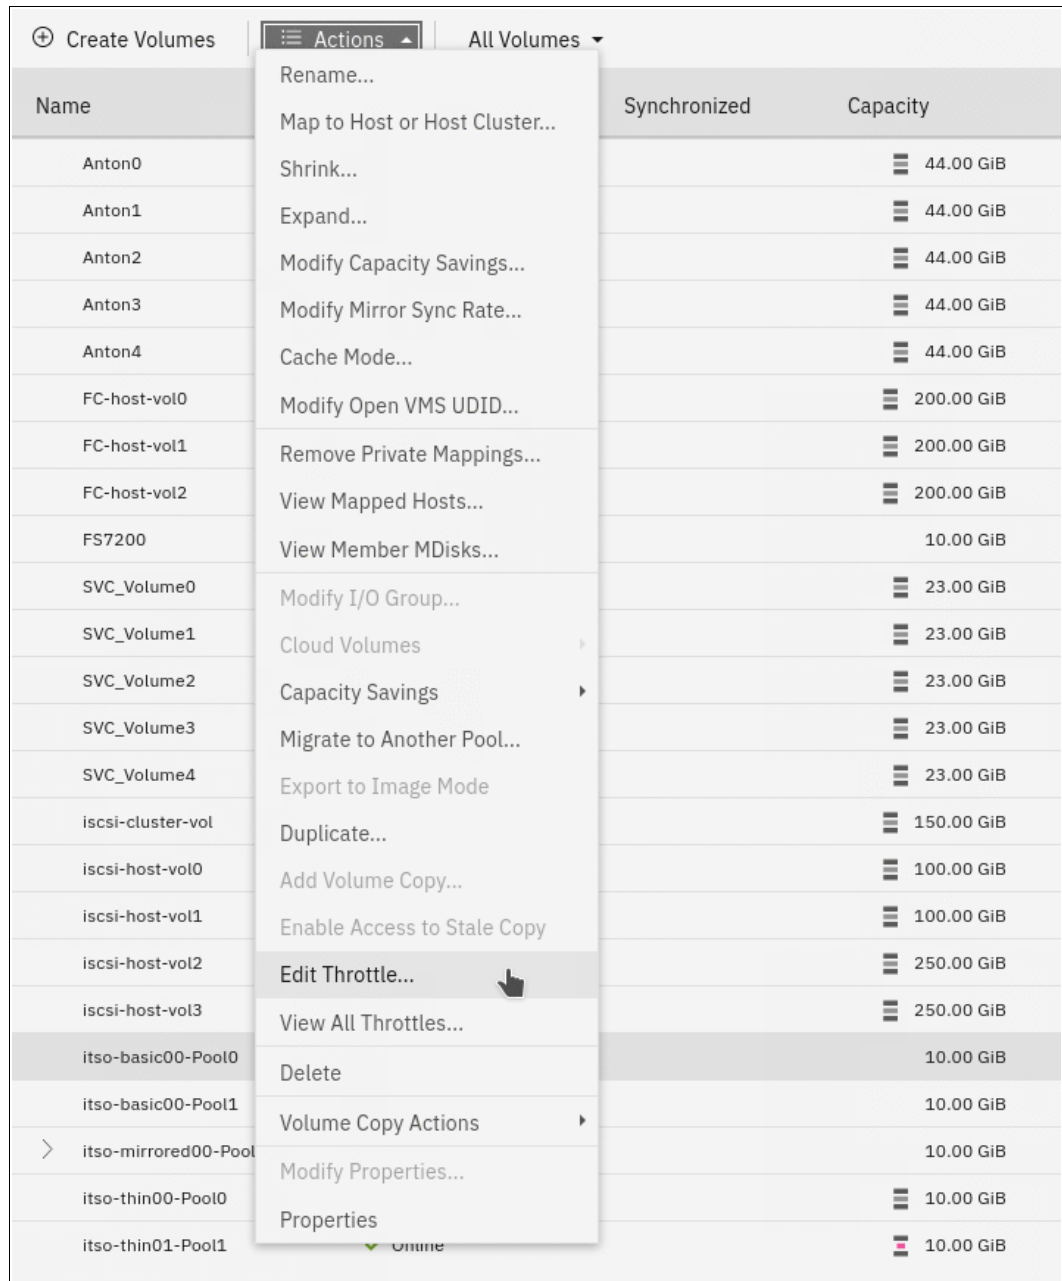

Figure 6-31 Edit Throttle menu item
1. Select **Volumes** → **Volumes**, and then select the volume that you want to throttle. Select **Actions** → **Edit Throttle**, as shown in Figure 6-31.